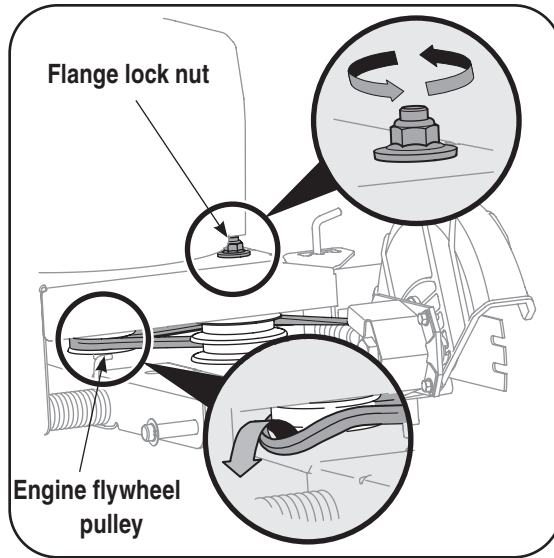

Figure 6-3
IMPORTANT: To aid in reassembly, note the orientation of the drive belt on the two idler pulleys and the engine flywheel pulley prior to performing the following steps. Refer to Fig. 6-3.
1. Working in front of the edger, loosen the flange lock nut on top of frame, allowing the idler pulley assembly to pivot slightly out from the frame. See Fig. 6-3.
2. With your other hand, carefully reach under the rear of the unit and remove the belt from around the engine flywheel pulley. See Fig. 6-3.
IMPORTANT: Make certain that the “V” side of the belt is seated into the top pulley and the flat side of the belt is seated into the bottom pulley. See Fig. 6-3.